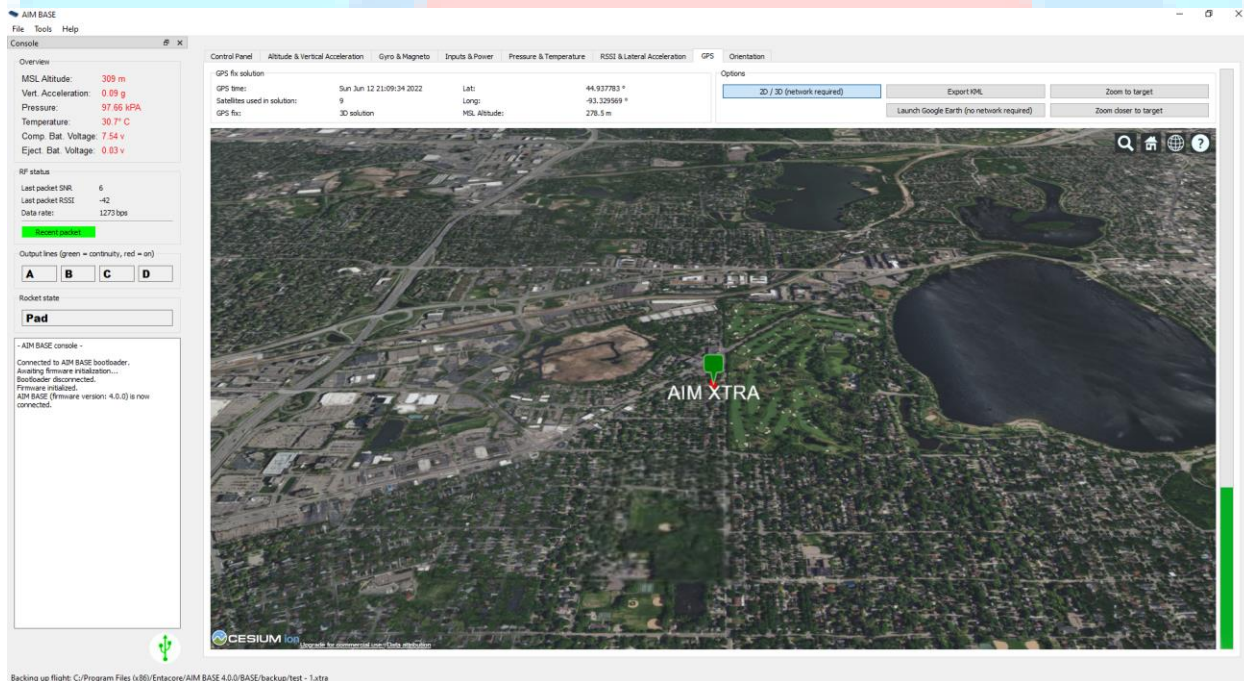

Figure 22 - AIM BASE Zoom to Target
- **Zoom to target** zooms the Cesium Ion image to the AIM XTRA's current location (see Figure 22). Use your mouse wheel to zoom in and out.